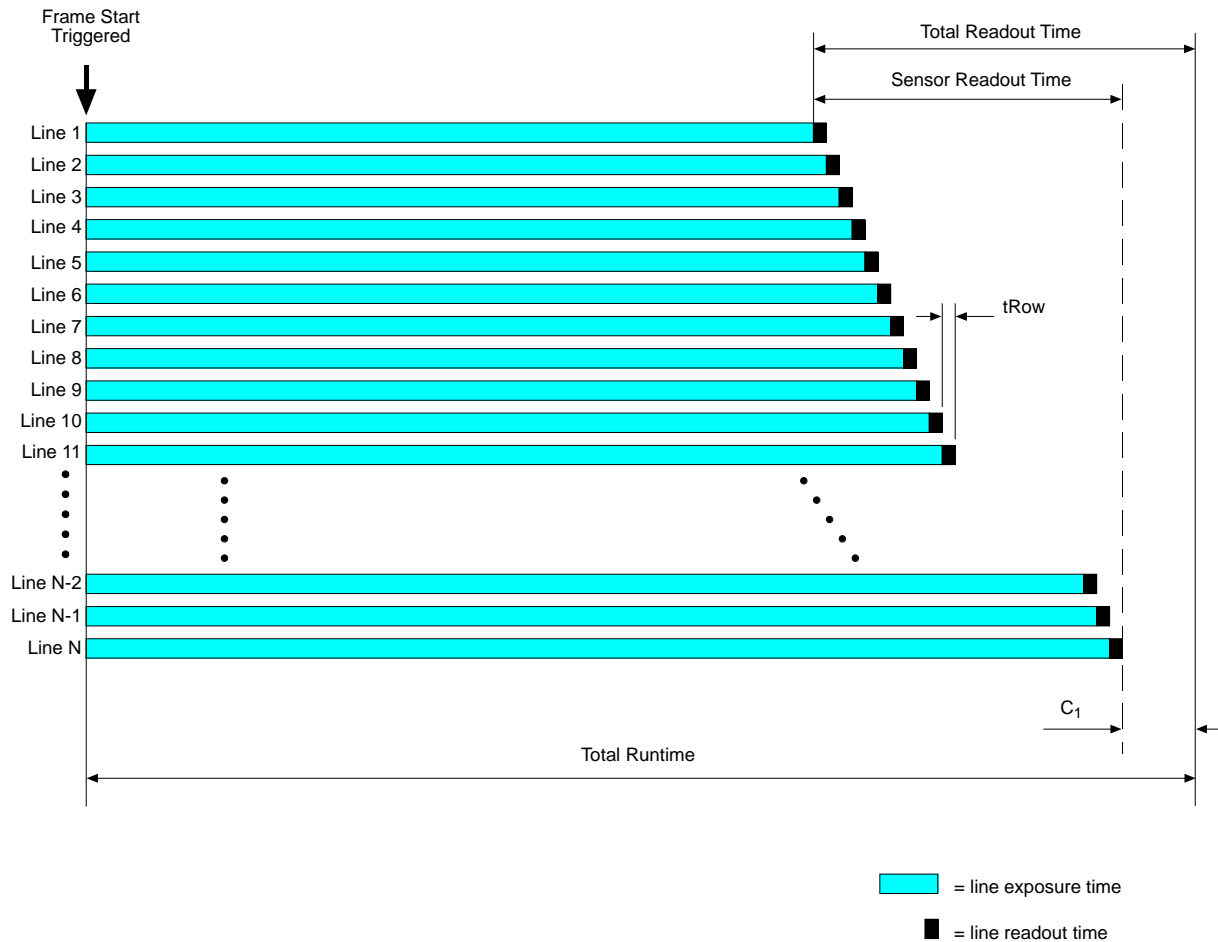
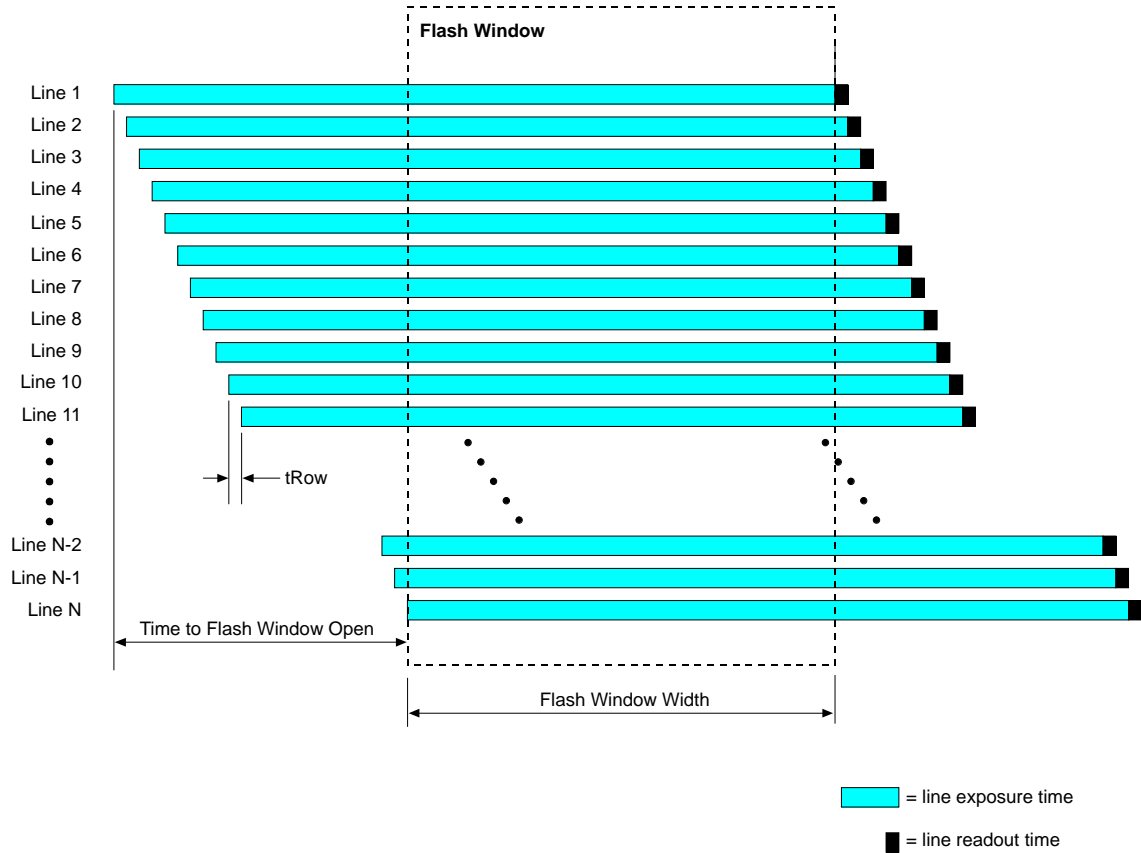

Fig. 62: Rolling Shutter in Global Reset Release Mode
Fig. 63: Flash Window for Rolling Shutter in Rolling Mode
When the shutter is operating in global reset release mode, all of the lines in the sensor reset and begin exposing when frame start is triggered (see Figure 62). However, in the end of exposure, there is a temporal offset (designated as tRow) from one line to the next. The tRow values are the same as for the rolling mode (see Table 35 on page 151).
- In global reset release mode the flash window width extends over the entire exposure time of a line in a sensor. In rolling mode, however, the flash window width can only extend over part of the exposure time of a sensor line (compare Figure 62 and Figure 63). Therefore, at a given frame rate, the global reset release mode allows for longer useful exposure times.
Figure 63 illustrates the flash window for the rolling mode.